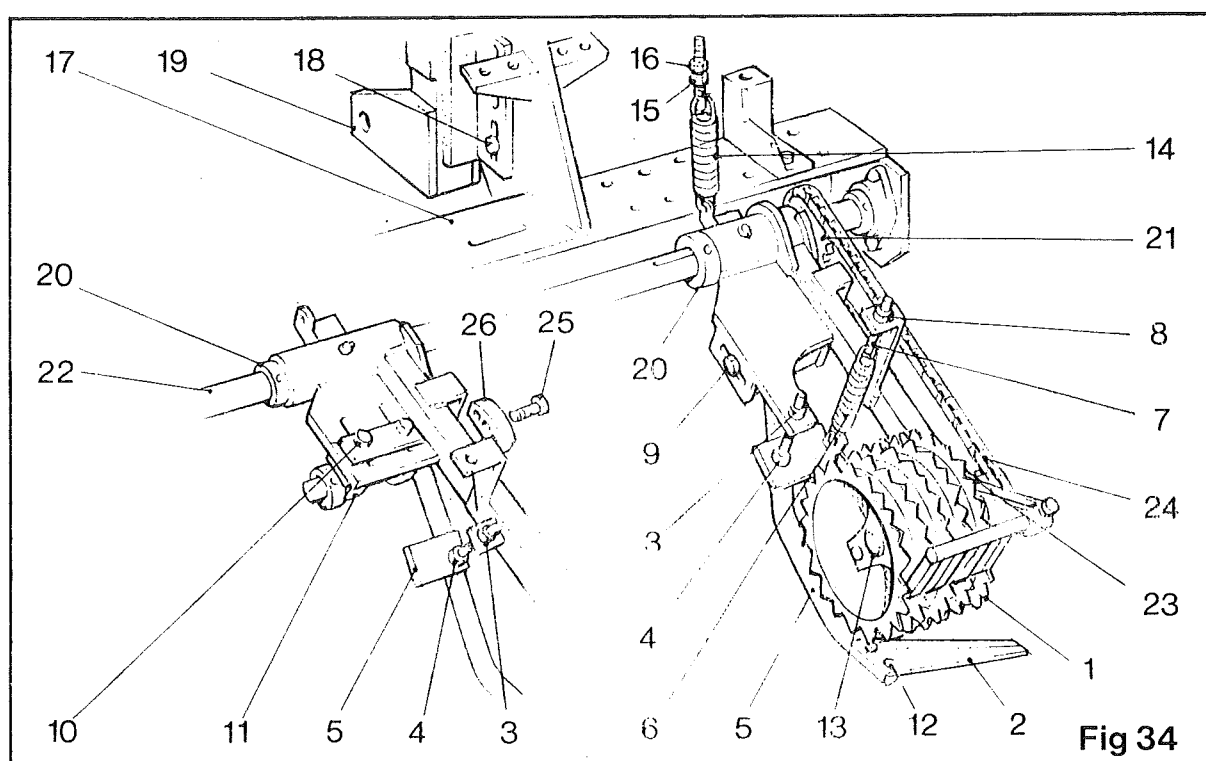

fig 34) and place them in the lower set of holes and reassemble in the slots in the frame (item 19 fig 34) and tighten up when the height is correctly set.
The purpose of the topping unit is to crown the beet cleanly and squarely by the use of a feeler wheel which runs on top of the beet holding it steady while the knife crowns it. The feeler wheels (item 1 fig 34) should be well onto the beet when the knives start to cut. Allowance is provided to adjust the depth of the knives (item 2 fig 34) by loosening the two locking nuts (items 3 fig 34), and turning the bolts (item 4 fig 34) to the stop plates welded to the knife arm (item 5 fig 34). This adjustment allows the topping knives to be moved towards or away from the feeler wheels, which are then held firmly in position by their tension spring (item 6 fig 34).
The tension of the spring is determined by the spring tensioner (item 7 fig 34) and the tensioner adjusting nuts (items 8 fig 34). Tension should be applied to the spring sufficiently enough to bring the knife firmly back into position after releasing an obstruction such as a stone.
The backward and forward position of the knife is also adjustable. This adjustment can vary, on some machines loosen the two setscrews (item 10 fig 34) and slide the knife arm bracket (item 11 fig 34) in the adjusting slots provided in the topping unit frame. On other machines the adjustment is provided by loosening the knife arm securing bolt (item 9 fig 34) and again sliding the knife arm in the slots to the required position.
As a guide to the most suitable position of the knife in relation to the feeler wheel, position the rear setscrew (item 12 fig 34) approximately in line with centre of the feeler wheel shaft (item 13 fig 34). The knife should be forward for small beet and backward for large beet.
Downward pressure can be applied to the feeler wheel (item 1 fig 34) by adjusting the tension of the topping unit spring (item 14 fig 34). To adjust the tension loosen the lower locking nut (item 15 fig 34) and adjust by turning the upper locking nut (item 16 fig 34) until the required tension is obtained. This adjustment will vary according to the number of high or low beet in the crop and to the firmness or looseness of the soil. The adjustments for the pitch of the topping units are provided at each end of the mounting frame (item 17 fig 34) and are determined according to the working depth of the harvester.
To adjust, loosen the bolts (item 18 fig 34) and raise or lower using the adjusting slots in the frame (item 19 fig 34) to the required position. If more adjustment is required, remove the bolts (item 18 fig 34) from the upper holes in the mounting frame (item 17
Adjustment is provided for different row settings. To adjust, loosen the grub screws in the collar (item 20 fig 34) and the collar adjacent to the drive sprocket (item 21 fig 34) and slide the topping unit complete with the drive sprocket along the drive shaft.
The row measurement should be made from feeler wheel to feeler wheel and not along the shaft (item 22 fig 34). When the correct row setting has been obtained, tighten the grub screws and align the drive sprocket with the drive sprocket (item 23 fig 34).
It is important that the topping unit drive chains are tensioned correctly or bad topping will occur. All chain are tensioned by a nylon block. To adjust the feeler wheel drive chain (item 24 fig 34) loosen the setscrew (item 25 fig 34) and pull the block (item 26 fig 34) upwards until the tension of the chain is correct and then tighten up the setscrew. To tension the topping unit main drive chain (item 5 fig 35) loosen the setscrew (item 6 fig 35) and push the block down onto the chain until the correct tension is gained and secure block.